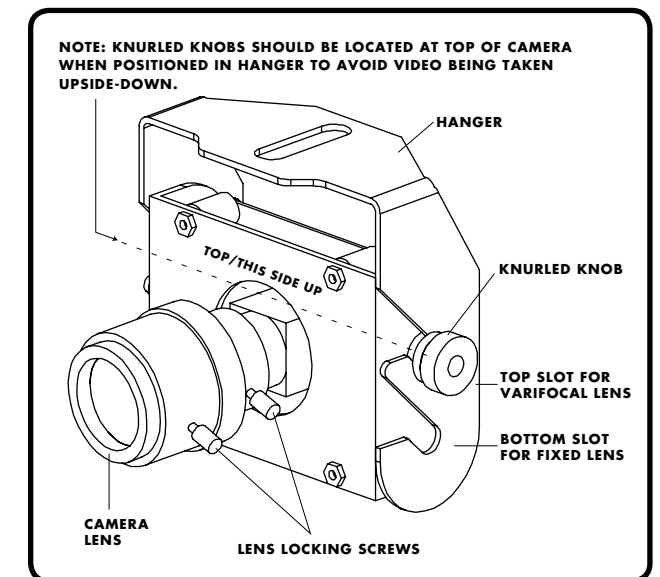

FIGURE 7
3. Place camera into hanger bracket. Position camera to view desired location. [FIGURE 7]
NOTE: Fixed lenses are set at the factory and should only need adjustment in rare cases. [FIGURE 7]